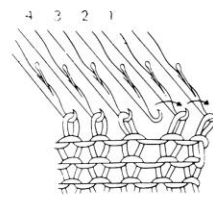

Fig.52-1
- Using the double eye transfer tool transfer the first two stitches so that the first stitch is on the empty needle and the second stitch is on the adjacent needle, (Fig.52-1) leaving the third needle empty.